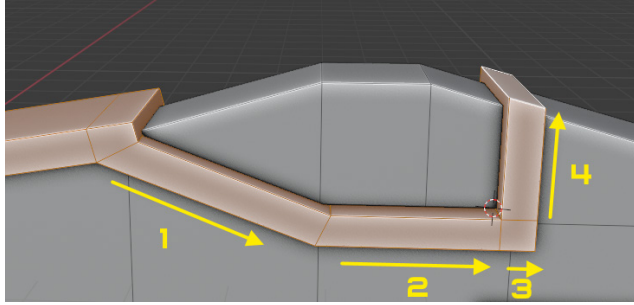

Figure 5.16 – Windshield frame
3. Extrude the face at the bottom of the loop we just created and use it to create a frame for the windshield. *Figure 5.16* shows how to create the frame in four steps using extrusion.